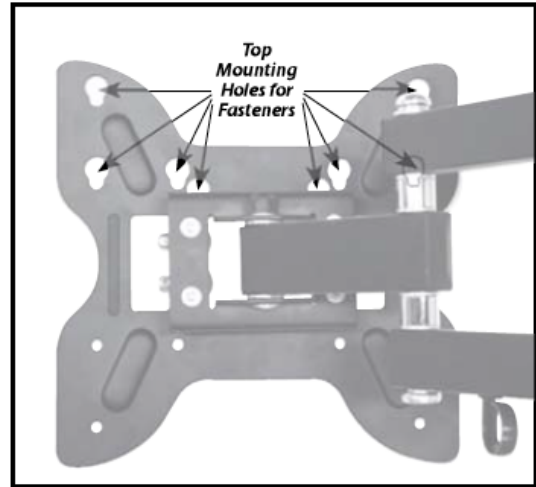
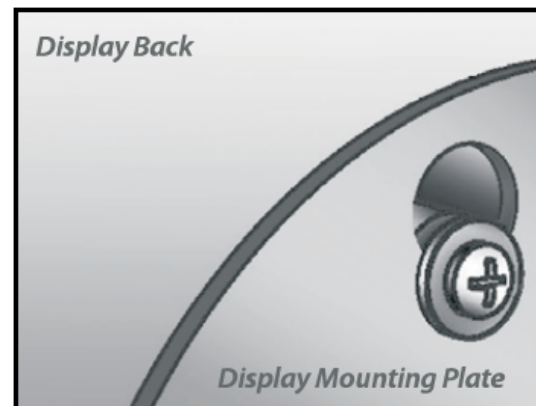

Fig. 6
Fig. 7
- A. With the help of another person, lift your display and carefully insert the installed Fasteners into the wider portion of one of the top left and right holes of the Display Mounting Plate (Fig. 6). Ease your display down into the smaller portion of these holes until the Fastener notch catches (Fig. 7). Have your assistant hold on to the display while you get the two Spacers (G) and remaining two bolts (A, B or C) that you selected.